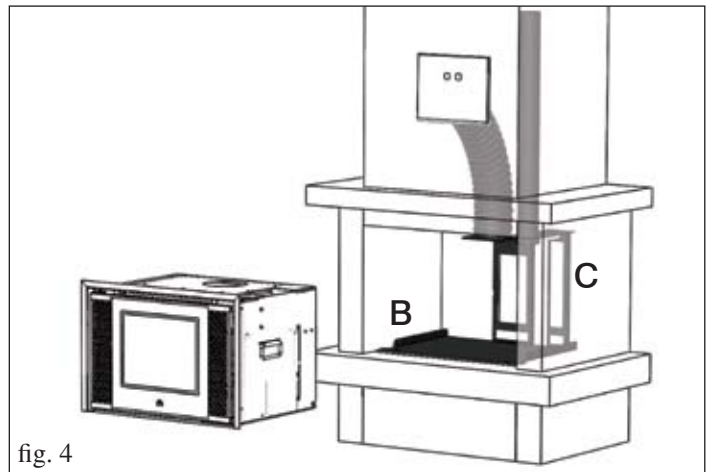

fig. 4
• Install the base plate (**B**) of the kit in the position where INPELLET 49 will be placed (fig. 4). Secure the plate (**B**) with the bolts provided.